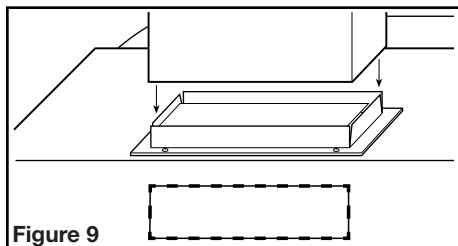

Figure 9
1. Connect the ducting to the hood's duct collar and damper. Ensure duct joints and exterior penetrations are sealed with caulk or other similar material to create an air-tight path to minimize building heat loss or gain and to reduce the potential for condensation. Place/wrap insulation around duct and/or fan in order to minimize possible condensation buildup within the duct, as well as building heat loss or gain (Figure 9).